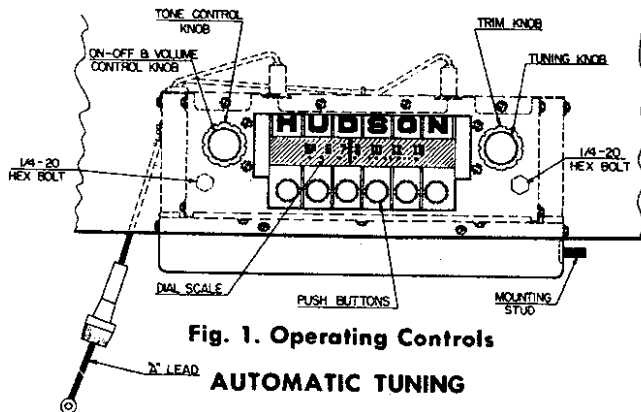

Fig. 1. Operating Controls
The tone control is located directly behind the volume control knob (Fig. 1). Rotating this control to the right or left will change the tone of the receiver. Tuning to the right will emphasize the high notes, while turning to the left will emphasize the bass notes.
2. Turn the manual tuning control knob (Fig. 1) to tune in the desired station. Carefully tune to the middle of the signal for clearest reception.
To tune manually it is only necessary to turn the manual tuning knob (on the right side of the receiver, see Fig. 1). Tune to exact frequency for the best tone quality. This can be done at any time without disturbing the automatic setting.
15. Place tone control knob onto shaft, put on volume control knob, tighten set screw (Fig. 1). Be sure there is no binding.
16. Place knob tension spring No. 80-594 over the tuning shaft. Put on trim ring and press on tuning control knob as far as it will go. Tighten set screw (Fig. 1).